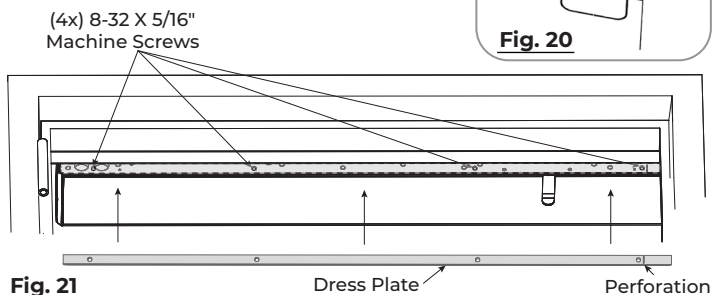

Fig. 21
- **For 36" (91cm) doors**, the dress plate can be shortened by bending the dress plate at the point of the perforation repeatedly until the end piece snaps off. (Fig. 21)